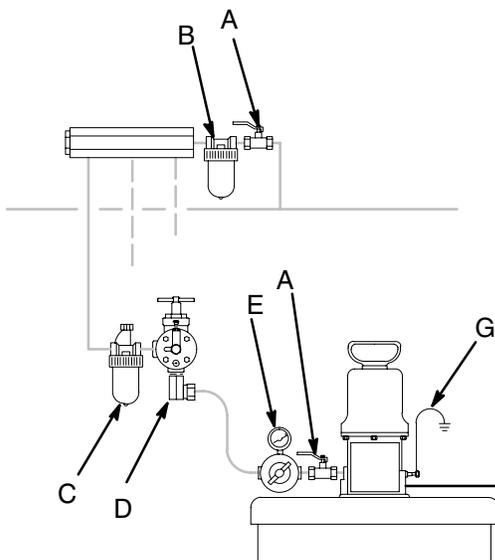

Fig. 4 02887
Install the accessories in the order shown in Fig. 4. Mount only the air regulator (E) and a master air valve (A) at the pump. Mount all other accessories on separate wall brackets to reduce stress on the pump inlet. Note that one air filter (B) can serve multiple pumps by using an air manifold downstream from the air filter.